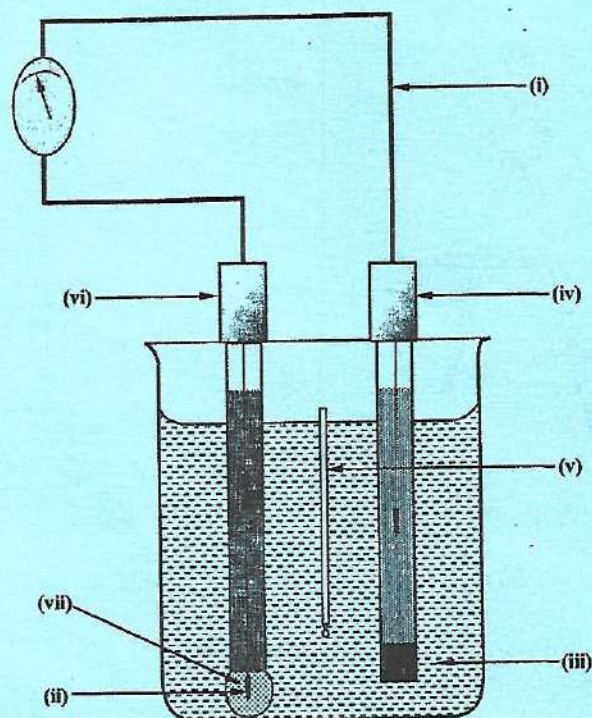

Fig. 5
17. (a) **Figure 5** is a diagrammatic representation of a pH meter.